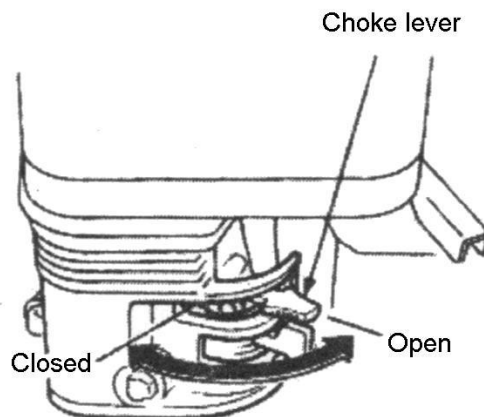

Figure 11. Choke Lever
3. Place the ***choke lever*** (Figure 11) in the “OPEN” position.